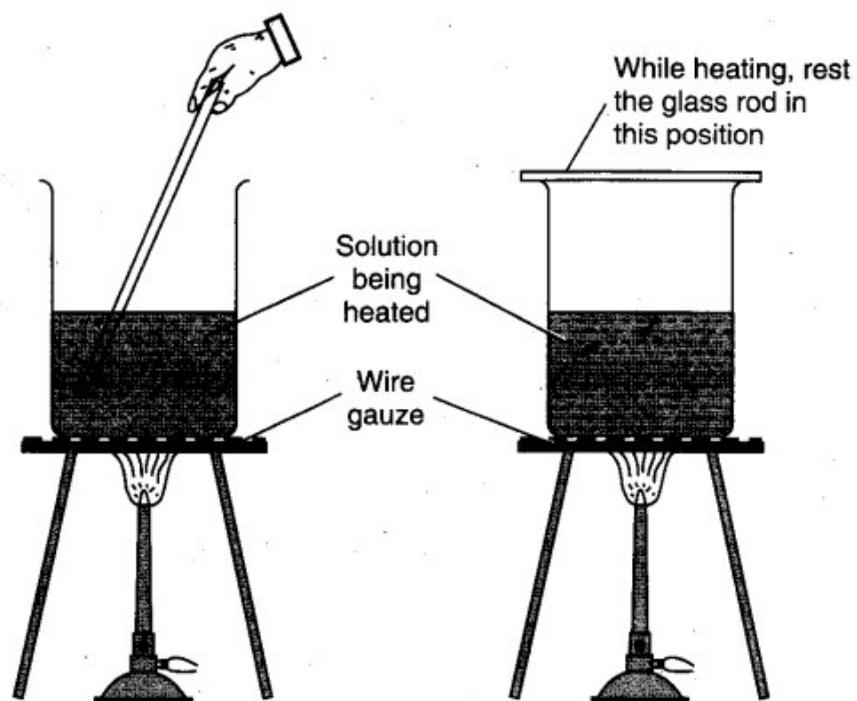

Fig. 5.2. Heating of solution.
3. The solution in the beaker is heated (60° - 70° C) on a wire gauze (Fig. 5.2).